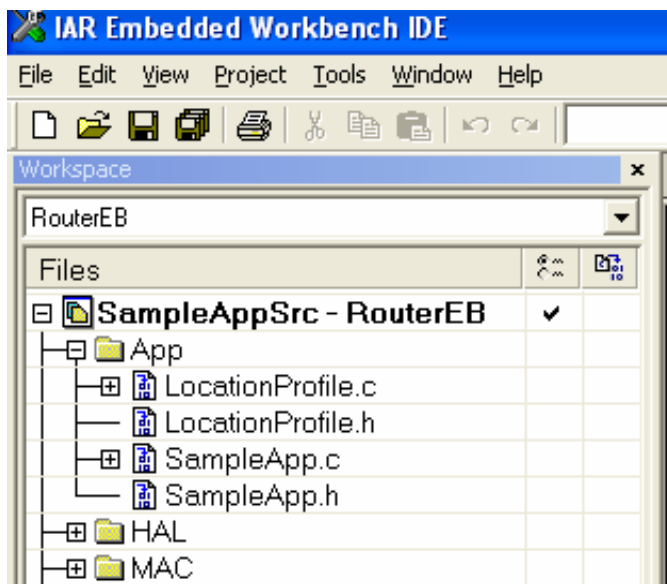

Figure 2. Adding Reference Node Source Files
1) Notice that the Location Profile files (LocationProfile.c/h, RefNode.c/h, and BlindNode.c/h) are placed in the SampleApp\Source sub-directory. In the App folder of the SampleApp project, only the LocationProfile.c/h files had to be added (see Figure 2).